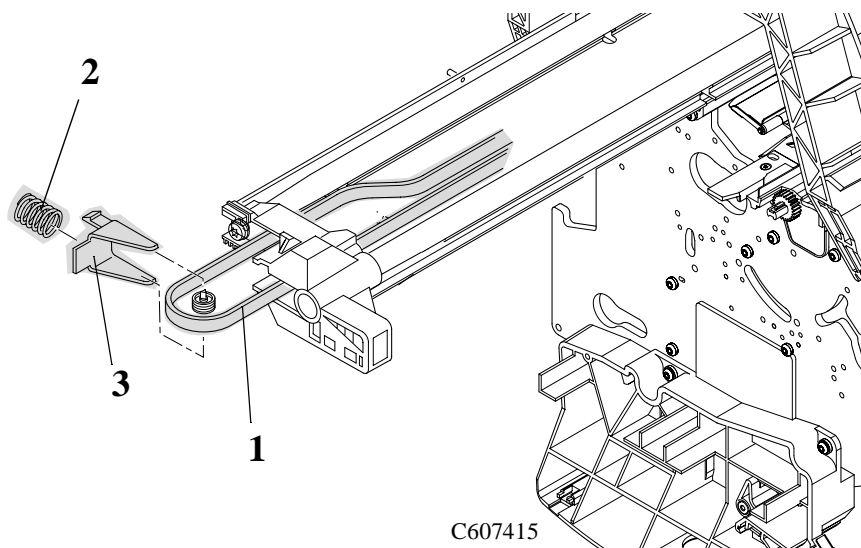
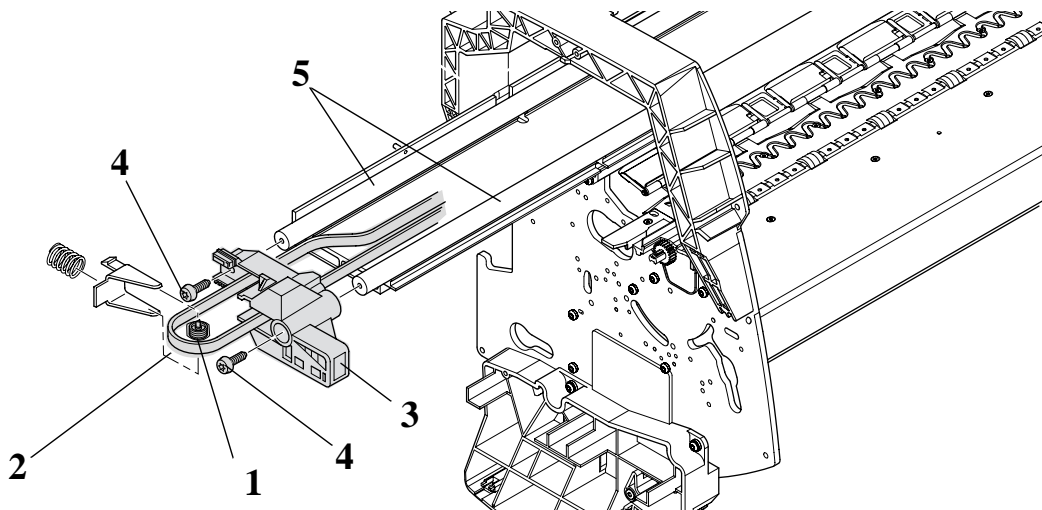

Figure 33: Tensioner Assembly
Figure 35: Tensioner Assembly
Refer to Figure 33 to Figure 35.
2. To release the tension on the belt (item 1) from the left hand side of the Printer, squeeze the spring (item 2) using the tensioner wedge clip (item 3) until you hear it click into place (refer to Figure 33).
For steps 4 to 6, refer to Figure 35.